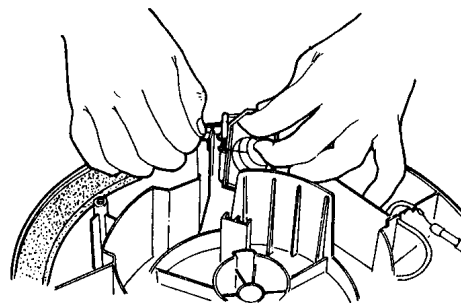

Fig.5
1. Remove the Blower Outlet Unit by pulling the spring which is located at the Body cover, locking the Blower Outlet Assembly upwards. (Fig.5)